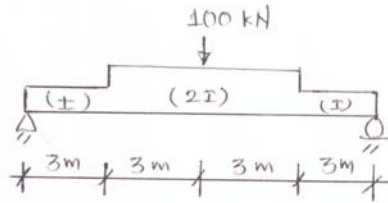

Fig. 3
- (b) Find the deflection at the center of beam by conjugate beam method for Fig. 3.  $E = 200 \text{ GPa}$  and  $I = 2 \times 10^8 \text{ mm}^4$ . **07**